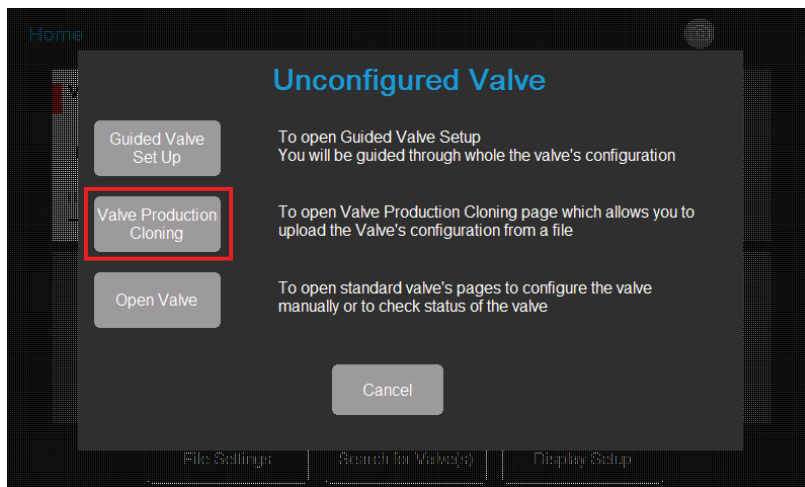

Fig. 100: Unconfigured valve selection screen.
- Selecting the icon of a connected valve and selecting the 'Valve Production Cloning' button from the pop-up screen. Refer to Fig. 100.
2. Select the appropriate connected valve tile. The unconfigured valve selection screen will pop up. Select the 'Valve Production Cloning' button. Refer to Fig. 100.